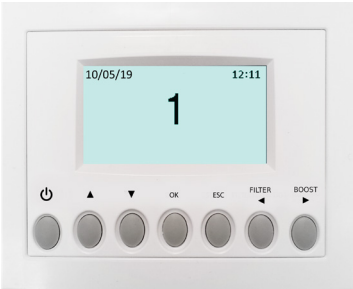

Fig. 7.c CTRL-DSP operation screen
- pressing the BOOST button on the CTRL-DSP for at least 2 seconds (Fig. 7.b - ).
Boost can be deactivated before time only by pressing the BOOST button on the CTRL-DSP for at least 2 seconds (Fig. 7.b - ).
It allows to reset the Filter Alarm after maintenance/replacement, only when FILTER is displayed (Fig. 7.b - ).
The Filter Alarm can be also reset pressing the FILTER button on the CTRL-DSP (Fig. 7.b - ).